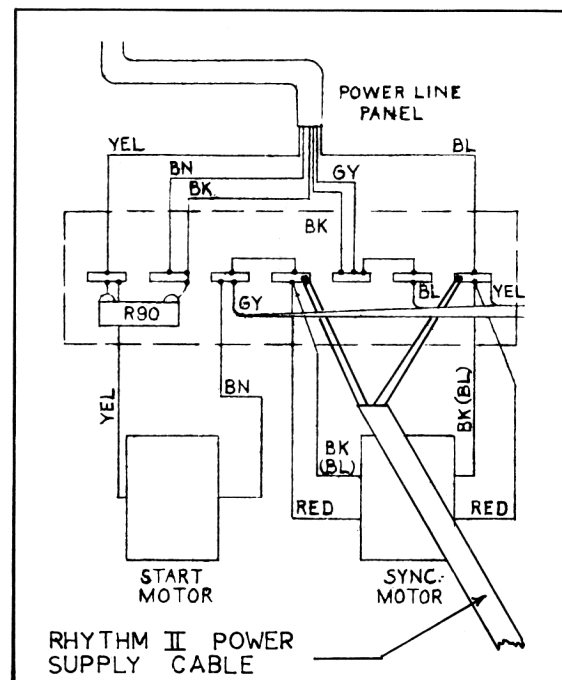

FIGURE 3-4.
- e. Route AC power wires from Rhythm II power supply through hole provided in left rear (rear view) of generator shelf, and solder to terminal strip of generator as shown in Figure 3-4.